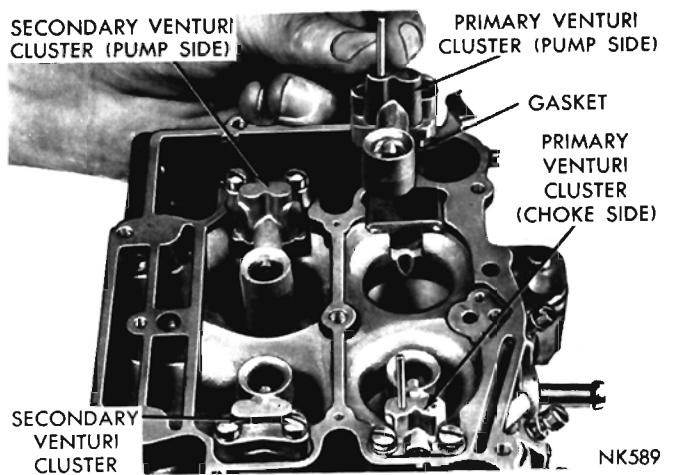

Fig. 5—Removing or Installing Primary Venturi Cluster
(4) Remove the screws that attach the primary venturi (choke and pump side) to the main body. Lift the venturi straight up and away from the main body, as shown in (Fig. 5). Discard the gaskets.
(6) Place new primary venturi gaskets in position, then install the primary venturi (pump and choke side) by lowering straight down on the gaskets. Refer to (Fig. 5). Install attaching screws and tighten securely.